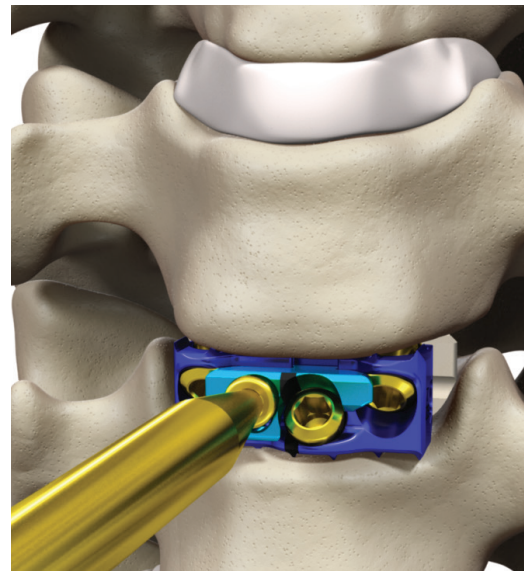

Figure 84
- Once all screws are fully seated within the plate, assemble the gold locking cap driver and torque limiting handle. Insert the locking cap driver into the gold locking screw. Ensure that the tip of the driver is fully seated in the screw pocket and that the driver is on axis to the locking screw (Figure 84).